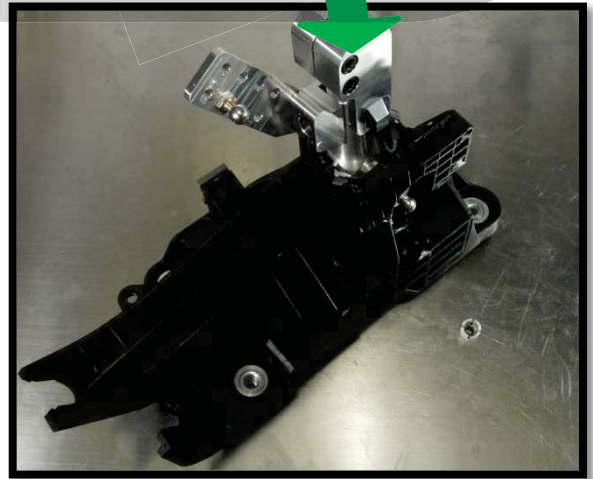

Figure 3c
c) Place the assembled shifter into the shifter housing (as shown in Figure 3c).